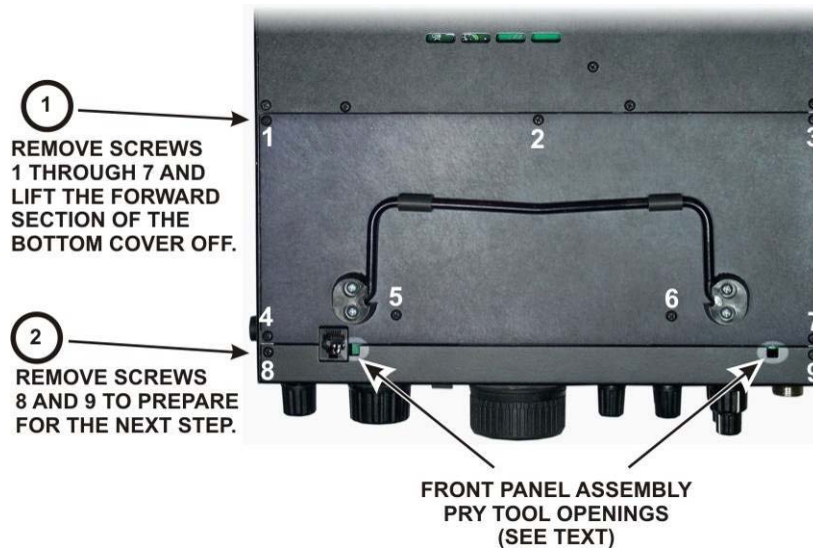

Figure 8. Removing Bottom Cover and Front Panel Screws.
Refer to Figure 8 and remove screws 1 through 7, then lift the forward section of the bottom cover off. Put it in a safe place to avoid scratches.
- Refer to Figure 8 and remove screws 8 and 9.
- If the forward section of the bottom cover is not already off, remove it as shown in Figure 8 on page 16.
Replace the forward bottom cover using seven 3/16" (4.8 mm) black pan head screws (see Figure 8 on page 16).